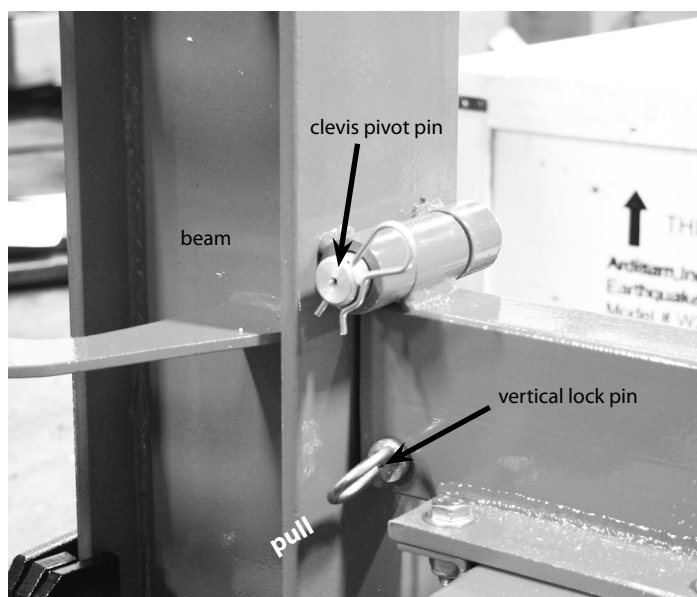
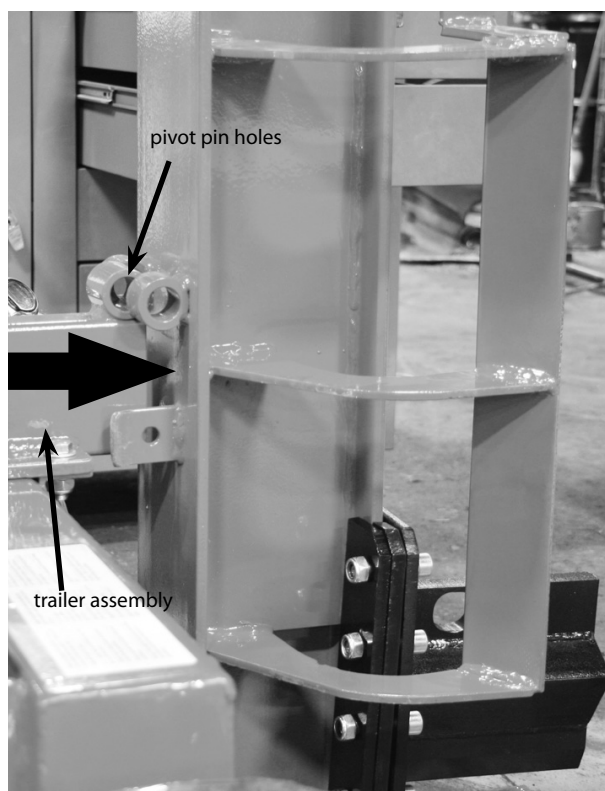

Figure 8
Figure 7
11. Slide the splitting wedge on the beam all the way to the end of the beam against the splitting foot. Stand the beam vertically on its splitting foot so the splitting wedge is pointing downward. Back the trailer assembly into the beam so that the pivot pin holes on the beam and trailer assembly are aligned with one another. **SEE FIGURE 7.** The spring loaded lock pin that is on the tongue, underneath the pivot pin hole, will need to be pulled back to allow the pivot pin holes to line up. **SEE FIGURE 8.** Insert the large clevis pin through the aligned pivot pin holes on both the tongue and beam, and secure in place with the corresponding hair pin. **SEE FIGURE 8.**